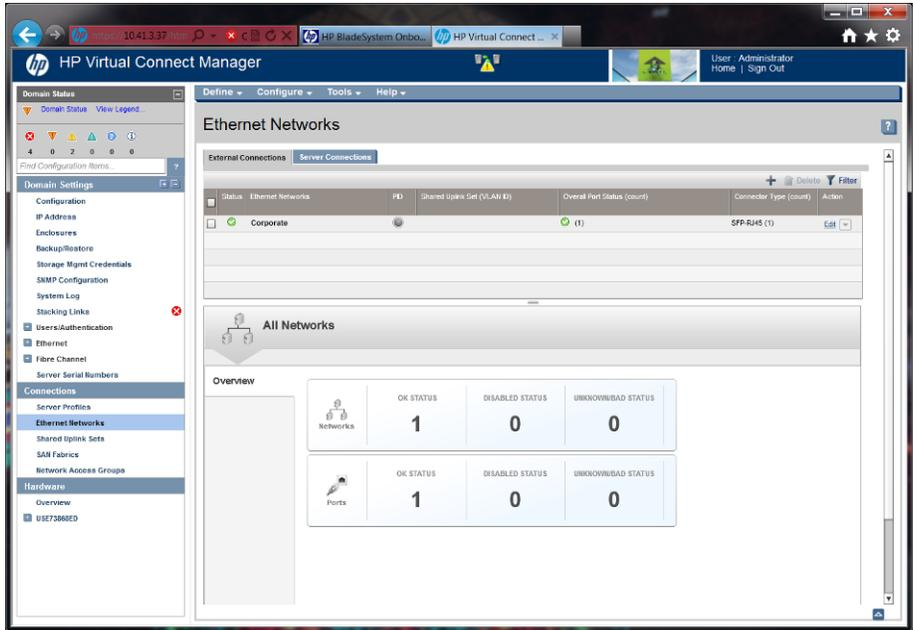

Figure 18: The Ethernet Networks screen.
5. Click Ethernet Networks. (See Figure 18.)